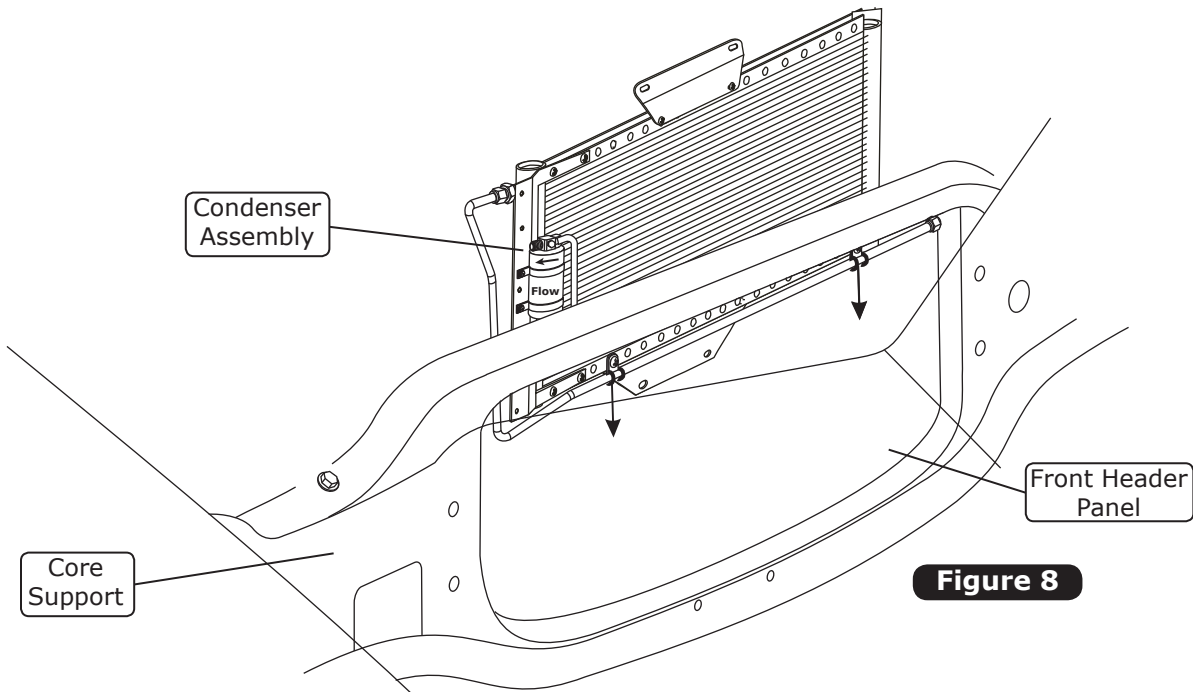

Figure 8
1. Lower the condenser assembly into the vehicle from the engine side of the core support (See Figure 8, below).